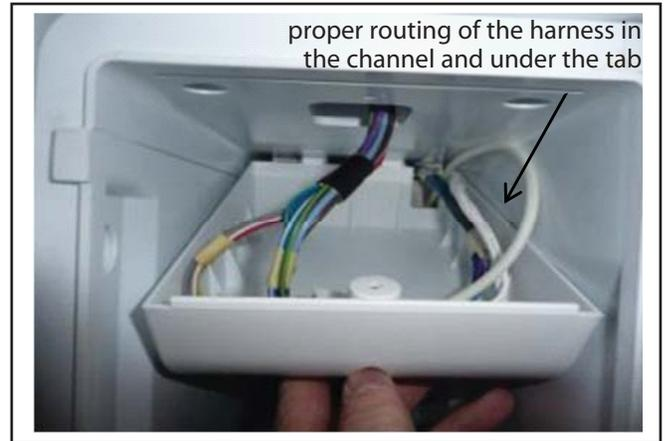

Figure 6-73
6. Tuck the harnesses into the cover as shown. Be sure that the harness coming from the ice maker and the Air Handler are inside the notch in the Harness Cover. Figure 6-73.